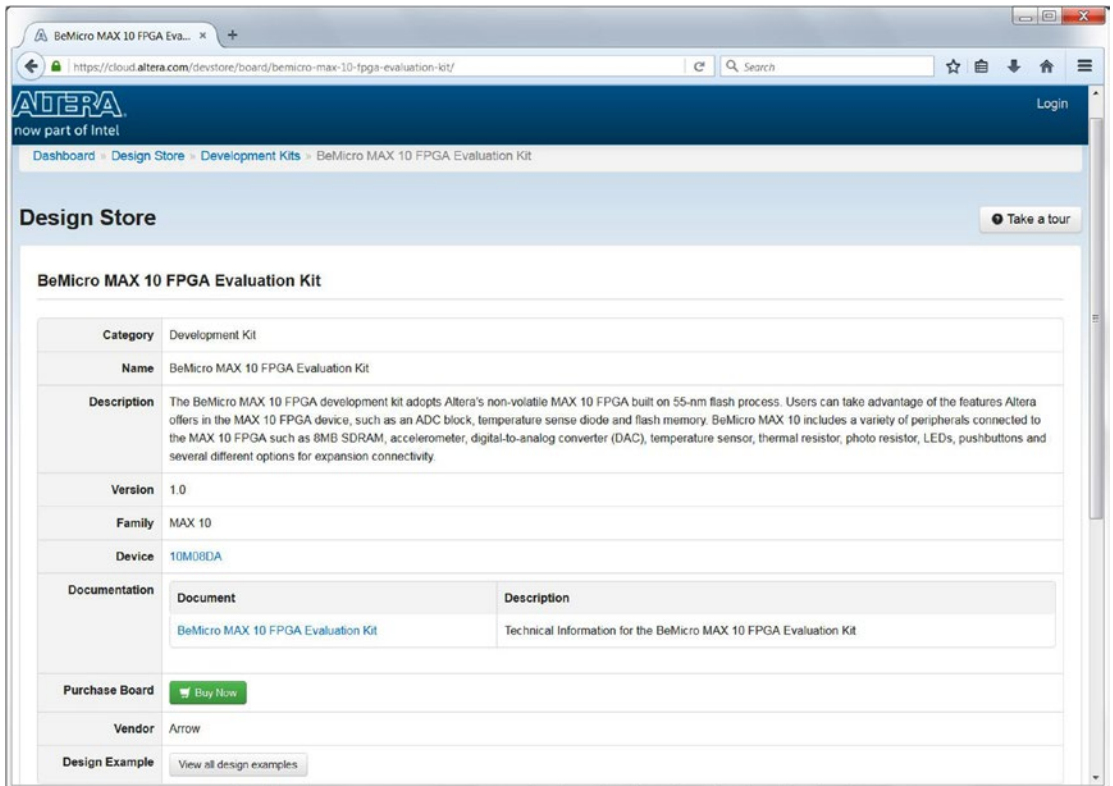

Figure 4-8. Altera Design Store—BeMicro MAX 10 FPGA Evaluation kit
9. Click **View all design examples** in the page as shown in Figure 4-8.